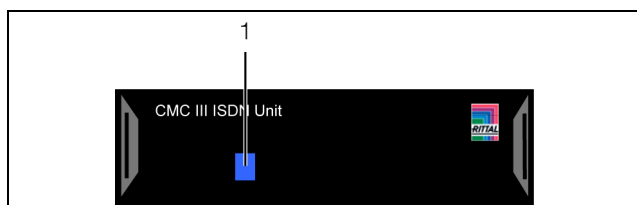

Fig. 10: Front of the ISDN unit
A multi-LED for status display is integrated into the front of the ISDN unit (fig. 10, item 1).